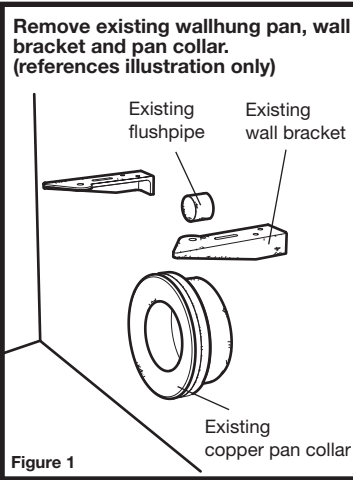

Figure 1
- 1- Remove existing wall-hung pan, wall bracket and pan collar as shown in **Fig. 1**. Important to clean and prepare wall surface before installation of Caroma Flex back inlet pan. Remove all rough edges from wall surface and chamfer the edges of the flush and outlet pipes.